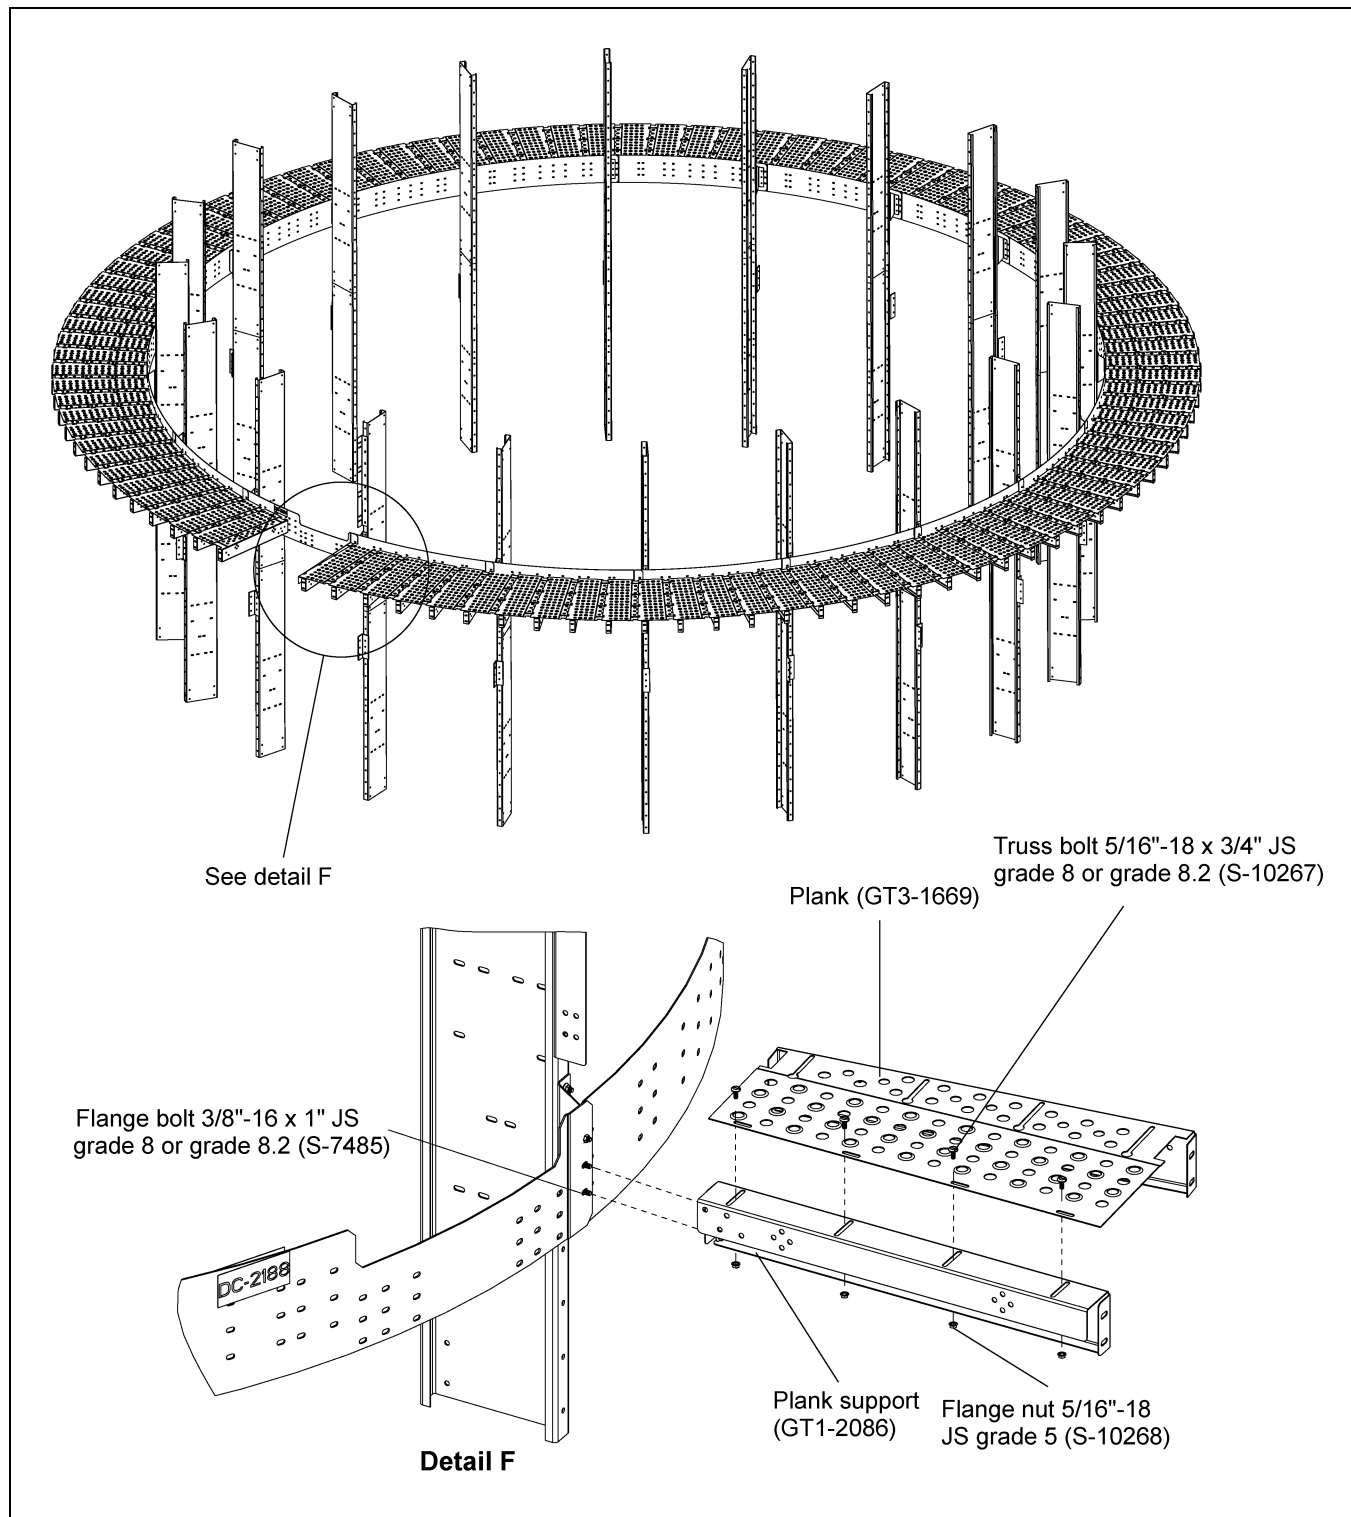

Figure 40
1. Once the planks are installed, install the plank support (GT1-2086) to the last plank (GT3-1669) using 5/16"-18 x 3/4" JS grade 8 or grade 8.2 bolts (S-10267) and 5/16"-18 JS grade 5 nuts (S-10268) and to the toe board (GT1-2089) using 3/8"-16 x 1" JS grade 8 or grade 8.2 bolts (S-7485) and 3/8"-16 ZN grade 5 nuts (S-968). (See Figure 40.)